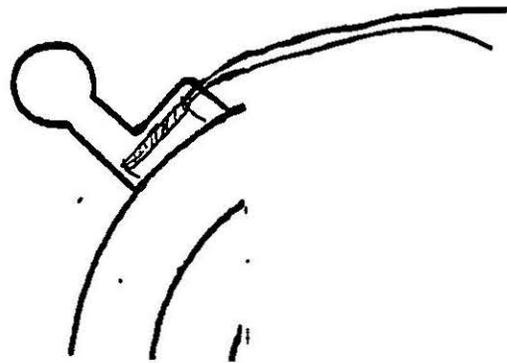

Figure 1b. Rolled Up Heater Strip Stub
2. Curl the tinned portion of the heater strip stub as shown in Figure 1b, to provide a tube for the heater strip wires.